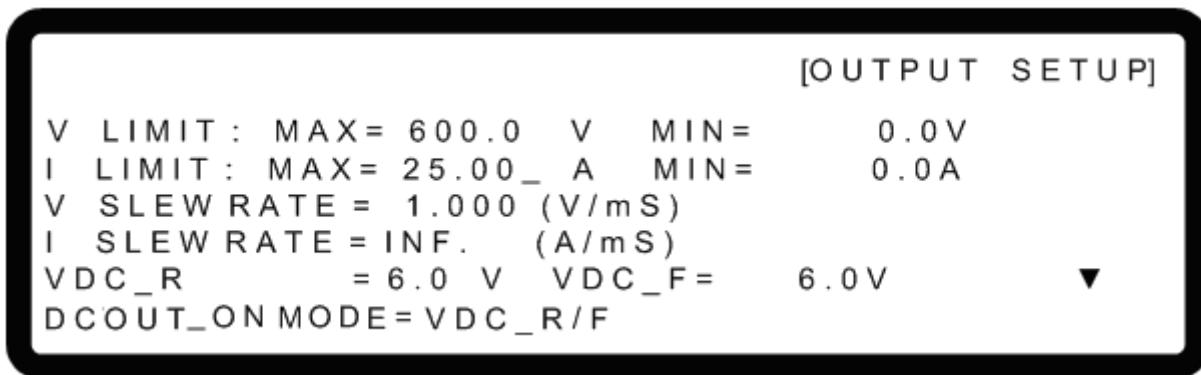

Figure 3-18
1. Use the “”, “” keys to move the cursor to the column to be set as shown in Figure 3-18.